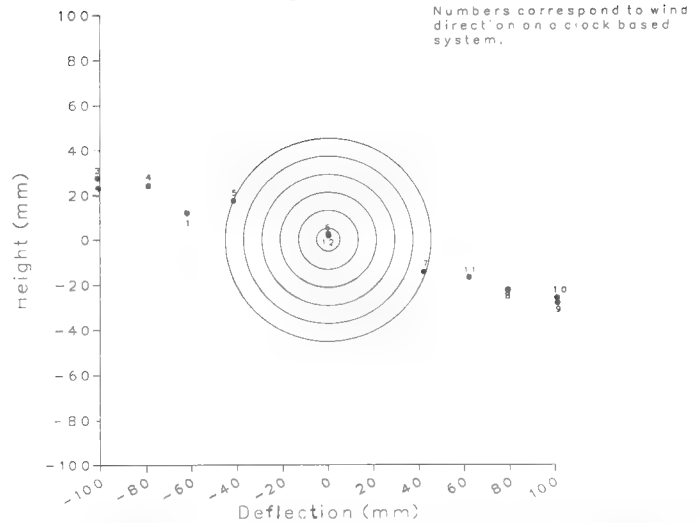

Figure 8. Effect of a 30 mph wind on the Eley Tenex bullet at 50 meters range
Figure 8 shows that the exact, 6-DOF result for a 30 mph wind from 4:00 is a horizontal deflection of -3.07", to the left, and a vertical deflection of 0.94", upward. Even in a 30 mph wind, the results of equations (1) and (2) are more than sufficiently accurate in practice; the largest error is only 0.13", in the horizontal plane.